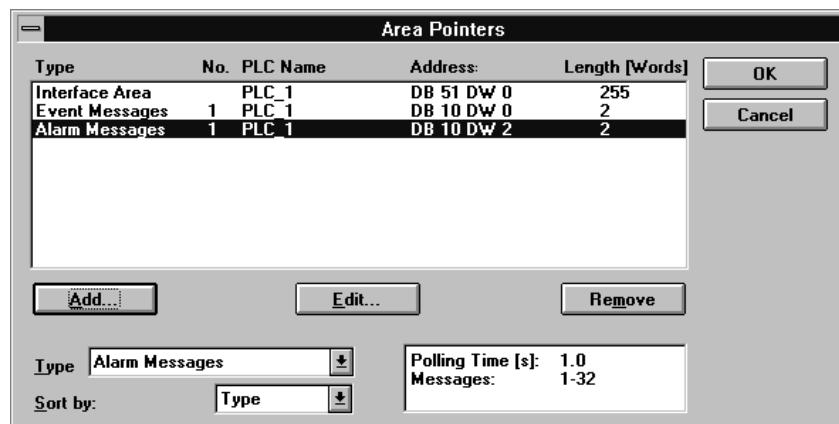

Figure 8-6 *Area Pointers* Dialog Box
1. Choose *System → Area Pointers* from the menu to create an alarm message area. The *Area Pointers* dialog box is opened (figure 8-6).